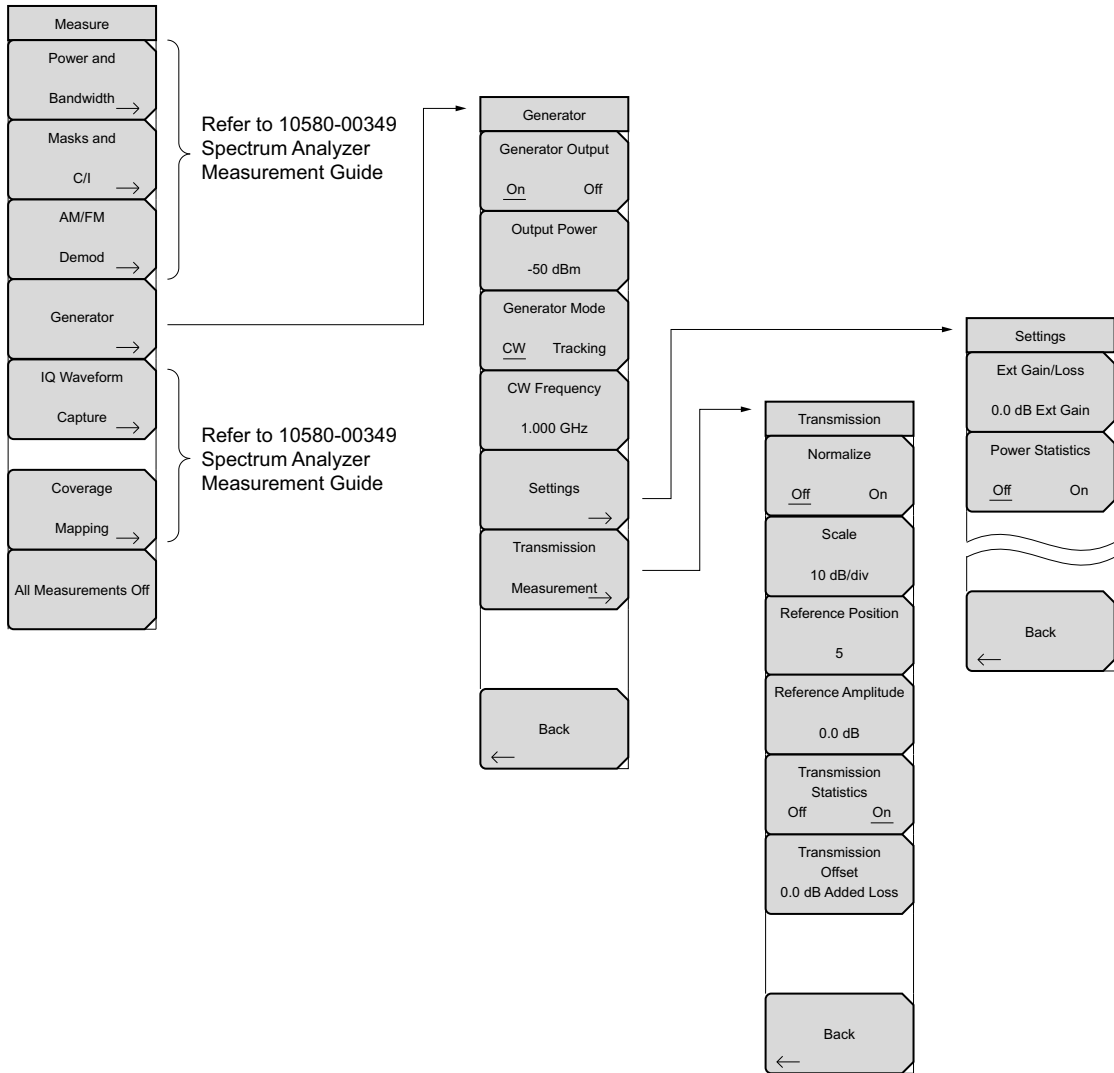

Figure 3-8. Measure Menu with Tracking Generator (Options 809, 813, and 820)
To access the functions under the Measure menu, press the **Shift** key, then the **Measure (4)** key. The addition of Option 809, Option 813, and Option 820 adds the Tracking Generator submenu key and subsequent menus, as shown **Figure 3-8**. Menu maps typically display all possible submenu keys, although some keys are displayed on the instrument only under special circumstances (refer to menu descriptions).